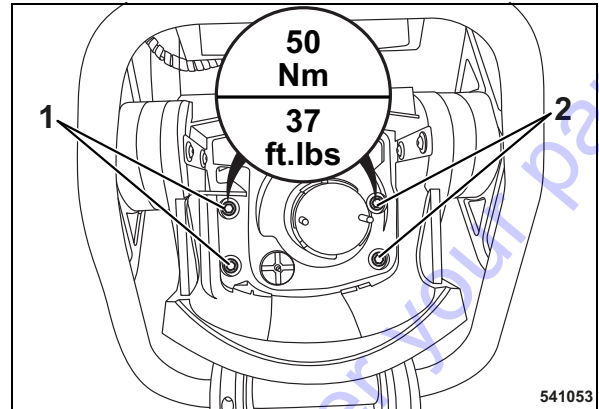

Fig. 59
- Retighten the screws (1) and (2) (Fig. 59) on the air filter housing with a tightening torque of 50 Nm (37 ft.lbs).